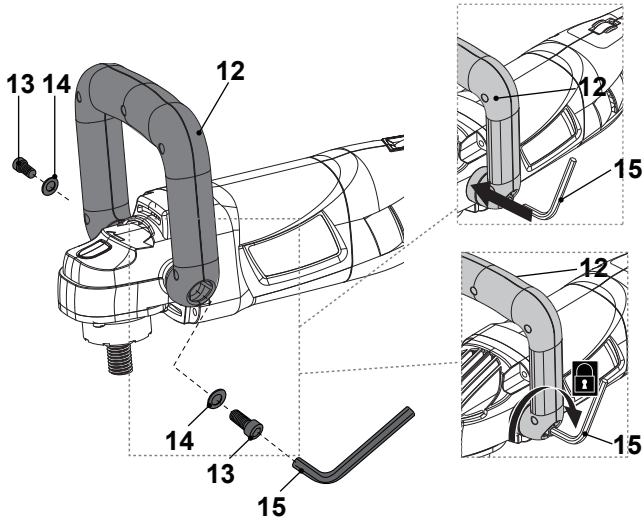

Fig. 1
- > Fit the auxiliary handle (12) onto the product, so that the holes on the auxiliary handle (12) are aligned with both mounting threads (2).
- > Use the hex key (15) to secure the auxiliary handle (12) with the hex bolts (13) and washers (14) on both sides (Fig. 1).